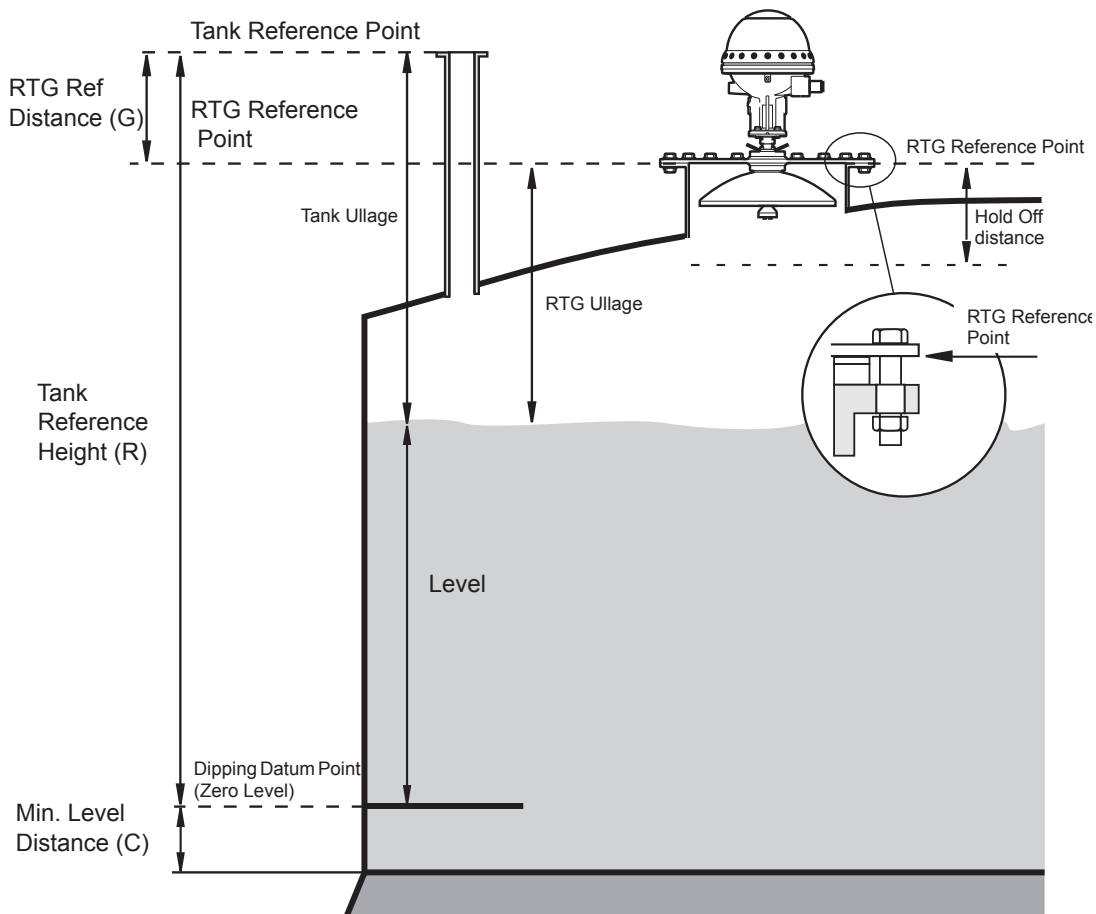

Figure 3-12. Tank geometry
RTG Reference Distance (G)                The RTG Reference Distance (G) is the distance between the Tank Reference Point and the RTG Reference Point. The RTG Reference Point is located at the top surface of the customer's flange or manhole cover on which the gauge is mounted as illustrated in Figure 3-12. For Still Pipe Gauges the RTG Reference point is located at the hand-dip mark on the Still Pipe Gauge Stand. G is positive if the Tank Reference Point is located above the RTG Ref Point. Otherwise G is negative.